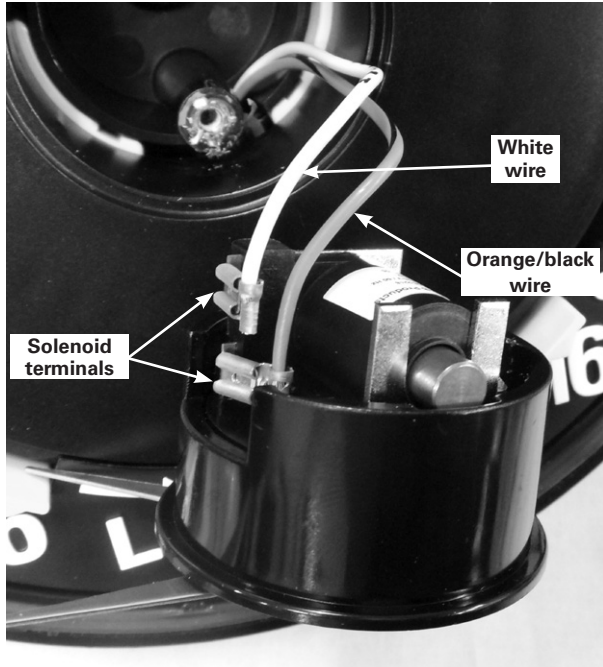

Figure 5. Solenoid terminals
- Using a pair of needle-nose pliers, remove the orange/black and white wires from the terminals on the solenoid. See Figure 5.
- Connect the orange/black wire to the inside terminal post on the new DHR solenoid. Connect the white wire on to the outside terminal post of the new module. See Figure 5.